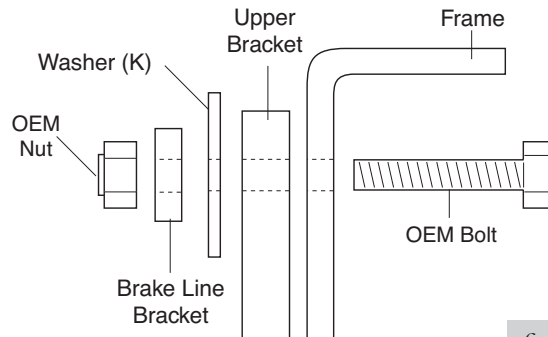

fig. 6
2. Insert the existing emergency brake cable bolt through the frame and slot in the upper bracket. Install a large washer (K) over the bolt and push it against the upper bracket. Install the emergency brake line bracket back in place and finish by installing the OEM nut to the outside (Figure 6). Leave loose at this time.